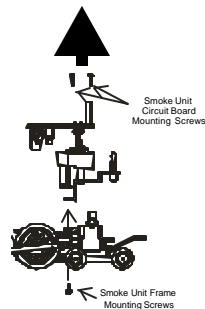

Figure 4: Inspecting The Smoke Unit
**CAUTION:** *Operating the engine without smoke fluid and with the smoke unit switch in the ON position can damage your smoke unit wick, causing the wick to become hard, blackened and unabsorbant around the heating element. When this occurs, it may be difficult for the wick to soak up the smoke fluid resulting in poor or no smoke output. If that occurs, we recommend that you inspect and/or replace the wick taking care to not run the engine without fluid in the future. You can inspect the wick to see if it needs replacement by removing the smoke unit inspection cover from the body as seen in Fig. 4. After removing the chassis and inspection cover screws lift the inspection plate away and inspect the wick. If the wick is darkly discolored and hard, it should be replaced.*